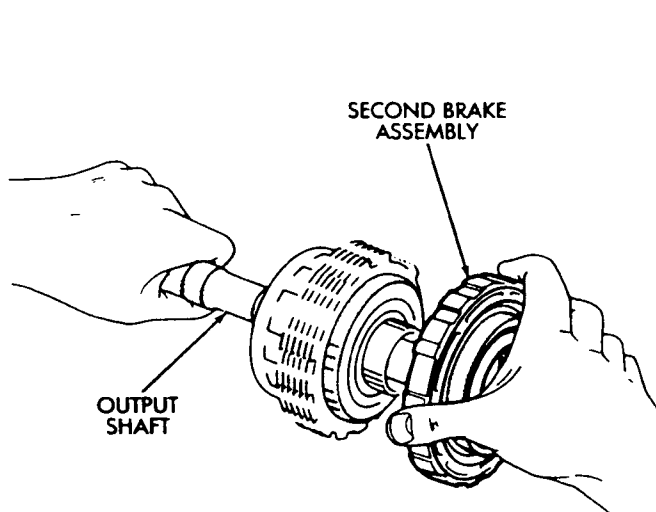

Fig. 2 Removing/Installing Second Brake Assembly ⁶⁹
(1) Remove second brake drum from output shaft (Fig. 2).
(2) Set output shaft assembly aside for overhaul. Refer to Rear Planetary Gear and Output Shaft Overhaul procedures.